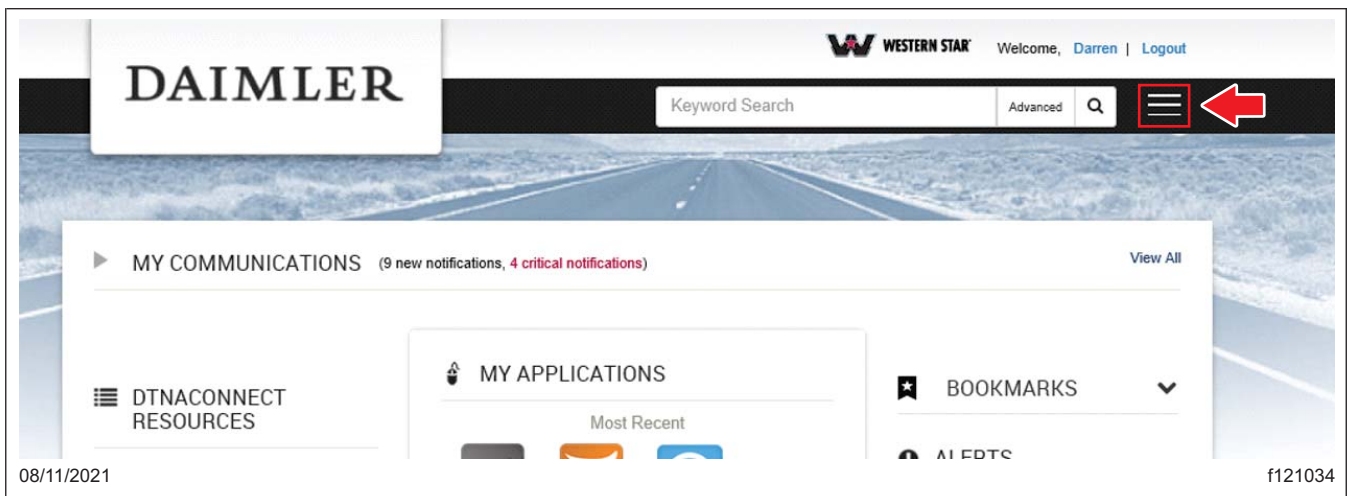

Fig. 1, Selecting the Menu Bar
2. On the laptop, go to DTNACONNECT, and select the menu bar at the upper right-hand corner. See Fig. 1.